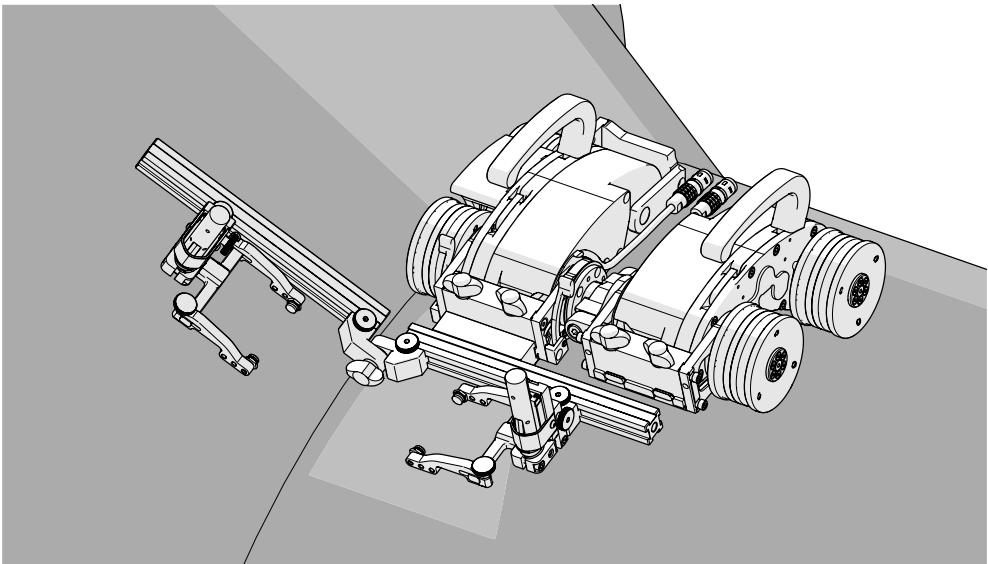

*Fig. 237 - Lift frame bar to avoid interference*
2. Loosen the pivot wing knob and raise the frame bar to an angle greater than the surface to be scanned (Fig. 237). Tighten the pivot wing knob and place crawler on scan surface (see “Placement of Crawler on Inspection Surface” on page 22)